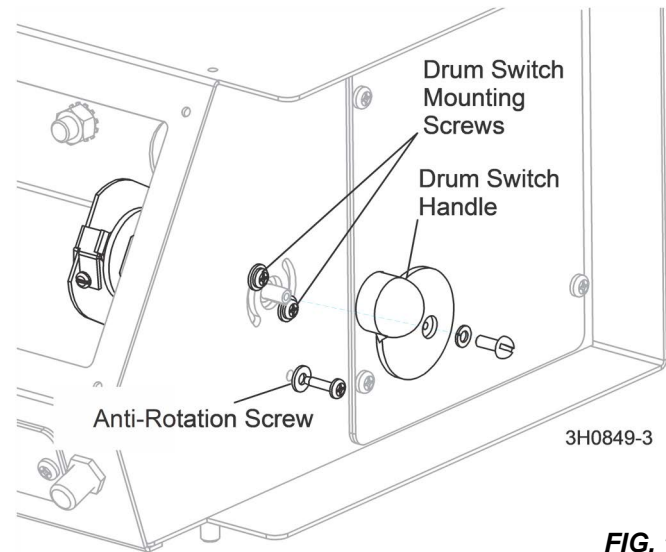

FIG. 1-11
20. Remove the anti-rotation screw from the right side of the control box. **See Fig. 1-11.**